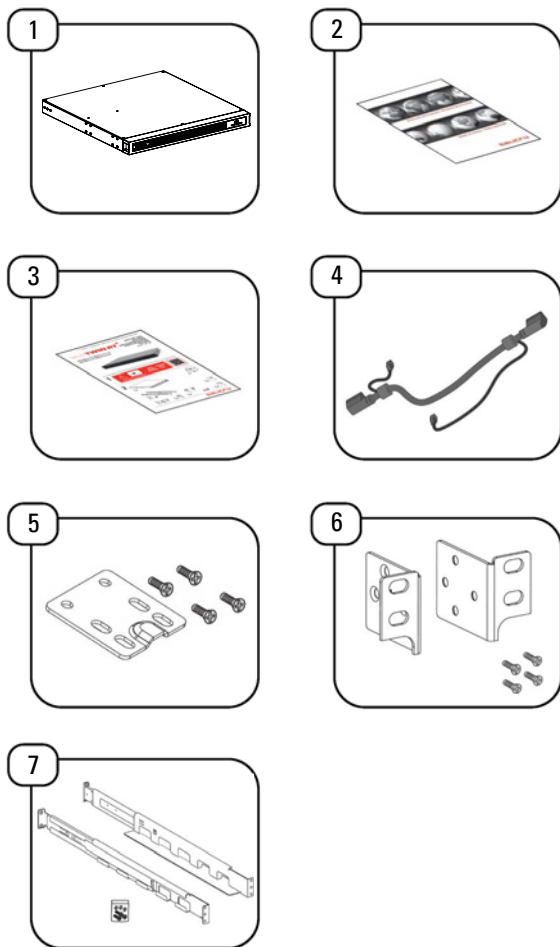

Fig. 9. Contents of the battery module packaging (EBM).
2. To install the device in a rack cabinet, use the side guides included with the device to support it (item 9 Fig. 9).
Connect the battery modules in series using the power cables with built-in RJ45 (item 4 Fig. 9), as shown in the following figure:
Use the metal plates provided (item 5 of Fig. 9) to connect the different EBMs to the UPS in the case of tower installation, as shown below:
The battery module is connected to the device using a tube supplied as an accessory with the battery module (item 4 Fig. 9).